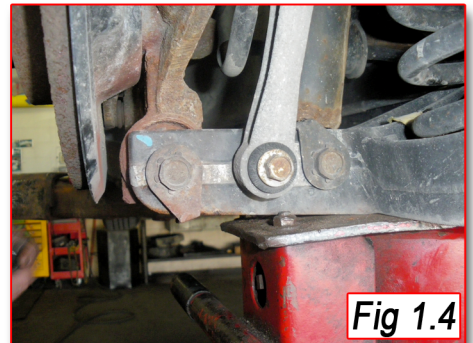

Fig 1.4
4. Support lower control arm during rest of procedure. **(Fig 1.4)**